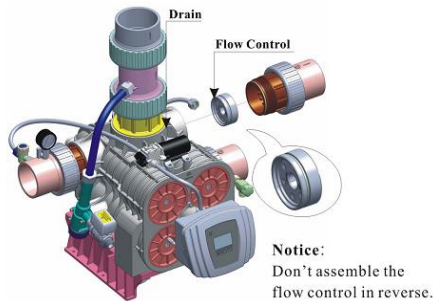

Figure 1-4
③ Install drain pipeline (If no special request, the injector is 7804)
c. Use the white manual handle as Figure 1-4 shows to open the drain connector, take out the drain line flow control, change it to the suitable one. (Please refer the hole of P30)